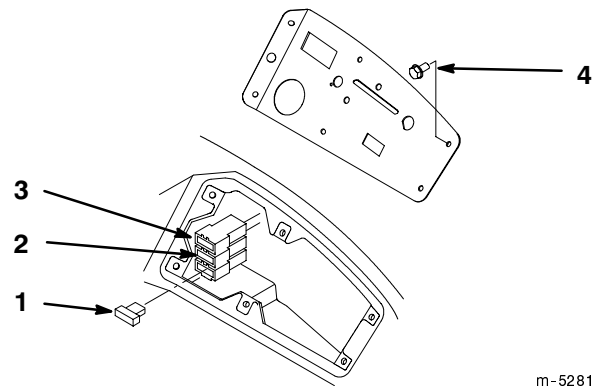

Figure 90
1. Remove dash panel screws to gain access to fuse holder (Fig. 90).
2. To replace fuses pull out on the fuse to remove it (Fig. 90).